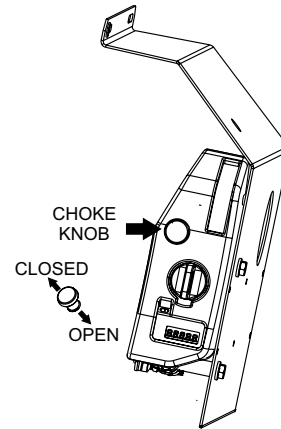

Figure 11. Choke Knob
2. When starting a cold engine, pull the choke knob, (Figure 11) out to the closed position. In warm weather or when the engine is warm, the unit can be started with choke halfway or completely open.